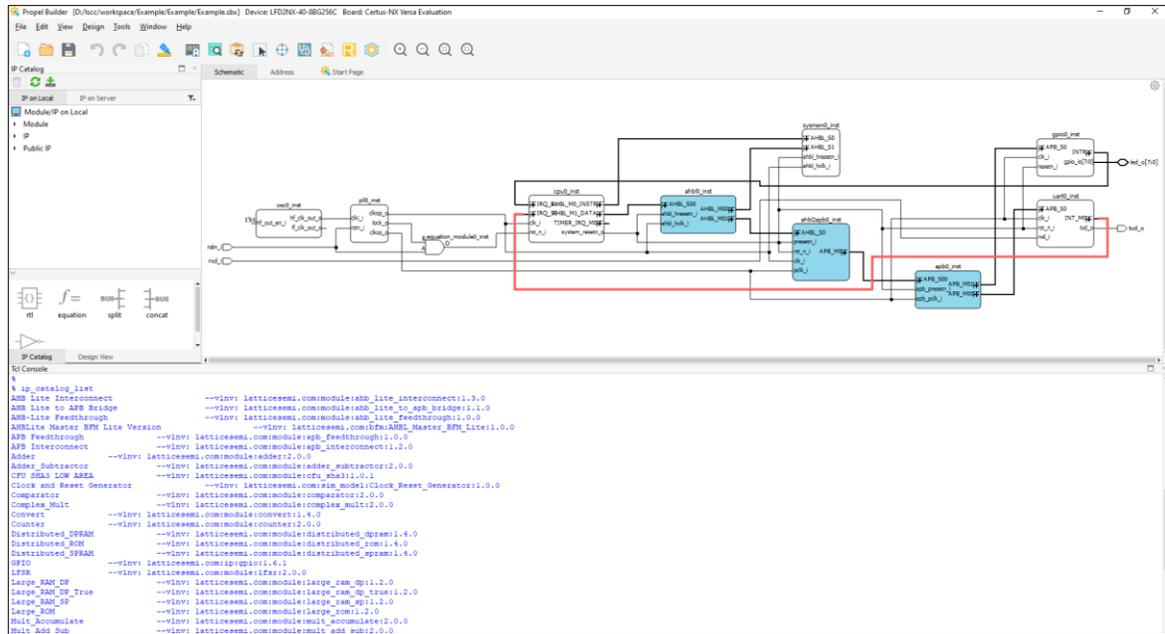

Figure 5.3. IP Catalog List Command
- Or, you can check all IPs by typing the following command in TCL console (Figure 5.3):